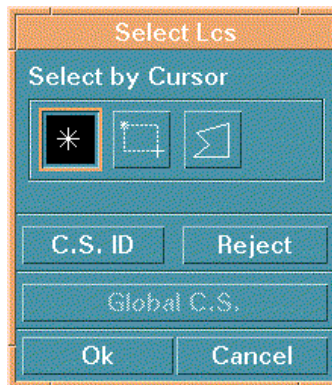

Figure 10.13.4 Select LCS
- The SELECT LCS dialog window appears, see Figure 10.13.4.